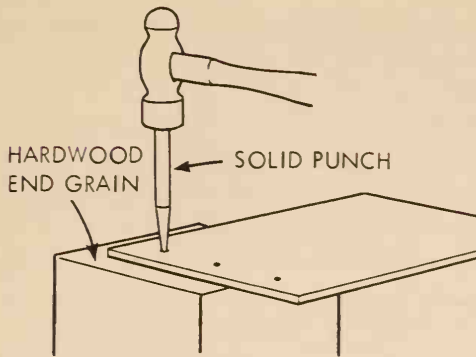

Fig. 5-41. Punching holes for rivets with a solid punch.
3. Drill or punch the holes. Holes in thin metal are usually punched. Place metal over the end grain of a hardwood block or a lead block. Set the punch over the place where the hole is to be punched. Strike the punch solidly with a hammer to form the hole, Fig. 5-41. To be sure the holes in the pieces being joined will line up, drill or punch all of the holes in one of the pieces, and only one hole in the second piece. Join the two pieces with a rivet. Using the holes already drilled in the first piece as guides, drill the rest of the holes in the second piece.